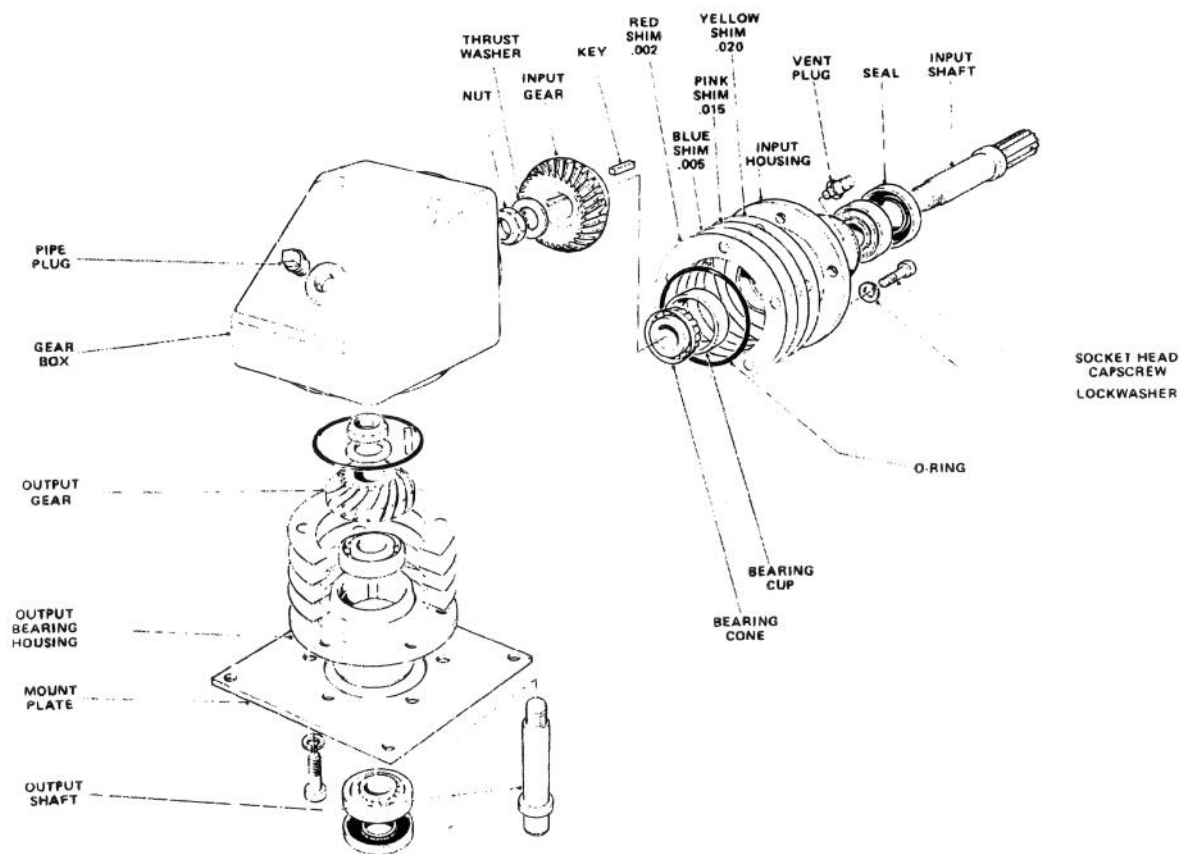
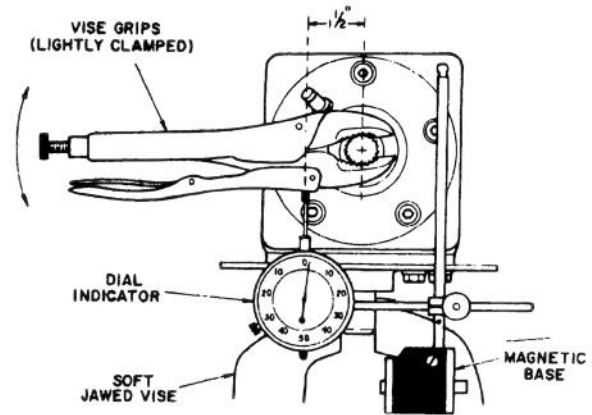

Figure 41
Figure 42
1. Insert taper lock into tapered bore in pulley. Install woodruff key into keyway in shaft. Slide pulley w/taper lock onto output shaft and over the key. Top face of pulley must be 7/16 inch (11 mm) below bottom of gear box (Fig. 41).
2. Remove pipe plug from gear box and drain oil out of gear box (Fig. 41).
1. Remove five (5) capscrews securing input housing assembly; tap input housing with soft-faced hammer and pull on input shaft to remove from gear box (Fig. 41).
2. Remove five (5) capscrews securing mount plate and output bearing housing to gear box, tap housing with soft-faced hammer and pull on output shaft to remove assembly from gear box (Fig. 41).
4. Use a bearing separator to remove gear from shaft. Remove square key (Fig. 41).
5. Support mount flange of input housing in arbor press, remove shaft seal and press shaft, threaded end up, out of housing (Fig. 41).
7. Use procedures 3 through 6 to disassemble the output shaft assembly (Fig. 41).
8. Discard and replace the shaft nut, shaft seal and housing O-ring for both assemblies (Fig. 41). Discard and replace all worn and damaged parts.
1. Press bearing cups into bearing housings with smaller I.D. of cups toward inside of housing (Fig. 41).
3. Press the remaining bearing cone onto the shaft. Install square key, press on gear, install thrust washer and nut (Fig. 41).
5. Oil the shaft, apply Permatex to O.D. of seal and press new seal into housing with seal lips facing inward (Fig. 41).
1. Install shims on housing (Fig. 41).
2. Oil O-rings, install on housing (Fig. 41) and insert both assemblies into gear box (Fig. 41).
4. Check input gear backlash with a dial indicator (Fig. 42). Backlash should be .005 - .010 inch at 1-1/2 inch (38 mm) radius (Fig. 42). If backlash is not within .005 - .010 inch (0.1270 - 0.2540 mm) remove input housing assembly and add or subtract shims as necessary. Repeat procedures until .005 - .010 inch (0.1270 - 0.2540 mm) is attained. .002, .005, .015 and .020 inch (0.0508, 0.127, 0.381 and 0.508 mm) shims are available (Fig. 41).